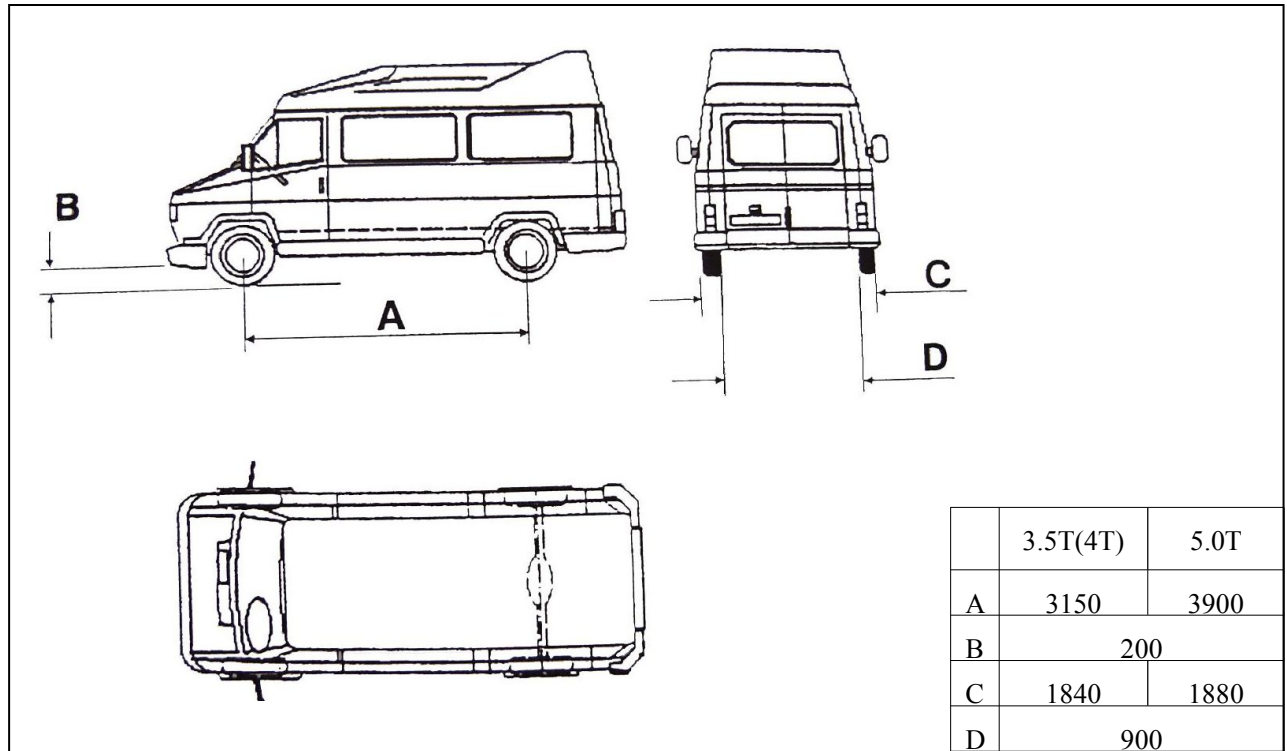

Fig. 8
- Make sure that the vehicle is at the correct position on the platform (See Figure 8)
Under the situation of overloading, the overflow valve at the pump station will open and return oil into the oil tank (See Figure 8)